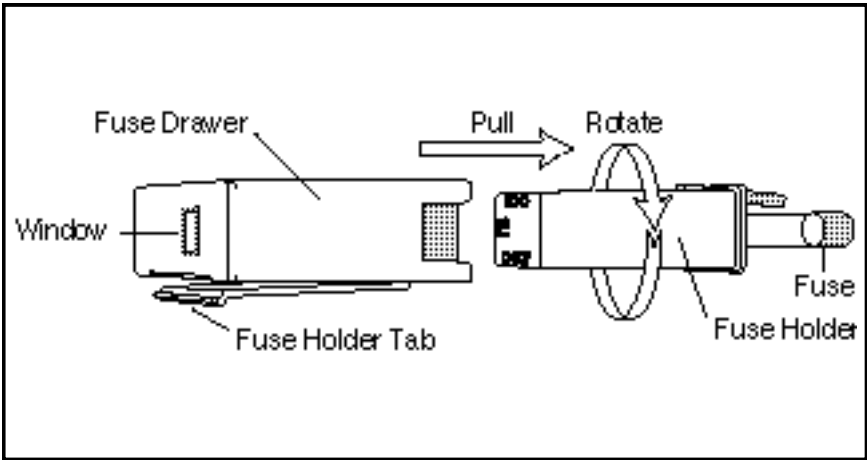

Figure 5: LCx Fuse Assembly
- d. Gently slide the gray fuse holder out of the drawer (see **Figure 5**).